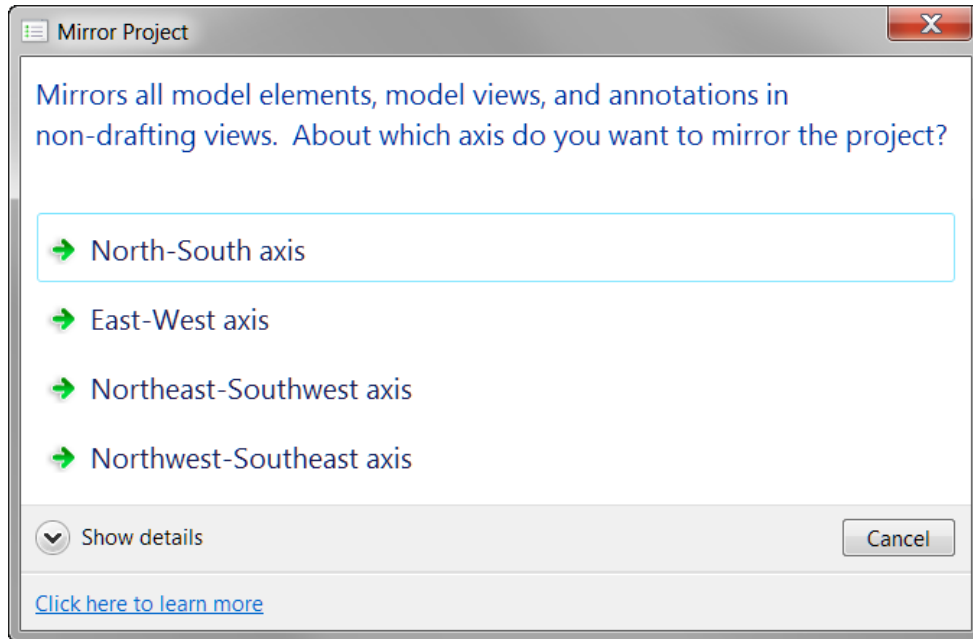

Figure 226 - The Show Details button displays additional Main Content text
The text should be written as a statement in sentence format, but with no final punctuation. See Figure 226 for an example of a Task Dialog with footer text.
- See Figure 226 for an example of a Cancel button with command links